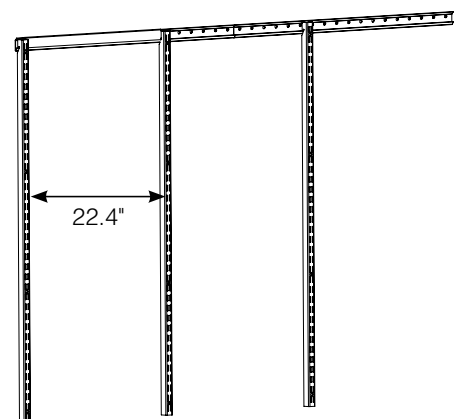

Figure 2
STEP 4: Starting from one side of the closet, hang a wall standard on the hang rail and use a hang rail cover to create the proper space between that and the next wall standard. Follow this method until all the wall standards are hanging from the hang rail (**Figure 2**).